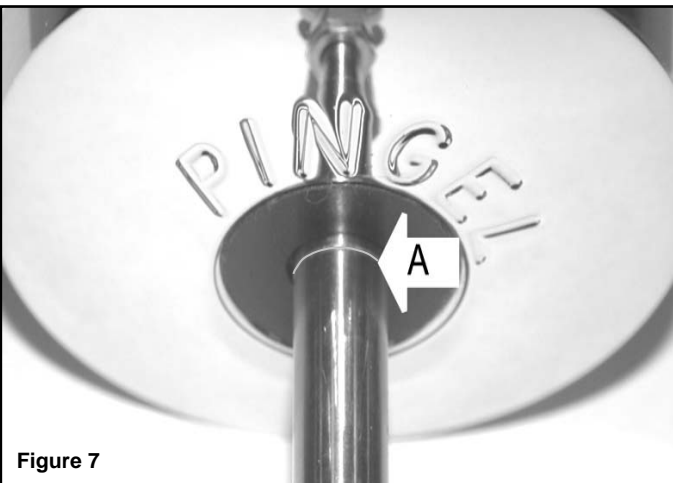

Figure 7
Before adjusting the shift cylinder up and down make sure the motorcycle shift lever is in its resting position. While holding onto the electric shift cylinder housing, loosen the two screws on the clamp. Find the groove in the center of the length of the travel of the cylinder shaft. Adjust the cylinder housing up or down so the groove in the shaft is right at the plastic bushing located on the end of the cylinder housing, as shown in (A) figure 7. With the shift cylinder in the correct position, tighten the two bolts of the Pingel clamp. Route the electric cable from the electric shift cylinder behind the engine and up to the control module, attaching it to the appropriate connector. Secure all wires away from heat and moving parts with the wire ties supplied.